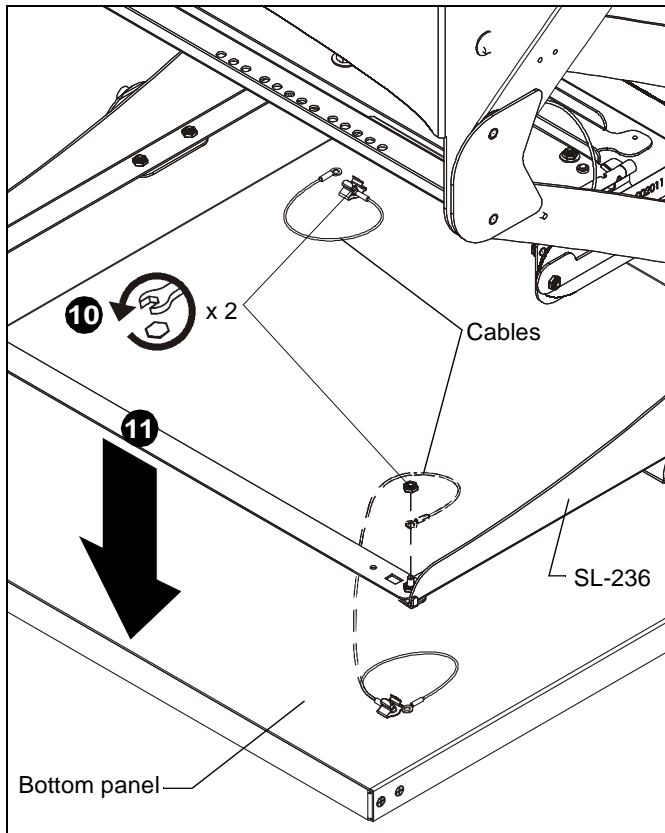

Figure 5
10. Loosen and remove two 10-24 nuts and cables from opposite corners of the SL-236. (See Figure 5)
11. Remove and pull bottom panel away from SL-236. (See Figure 5)